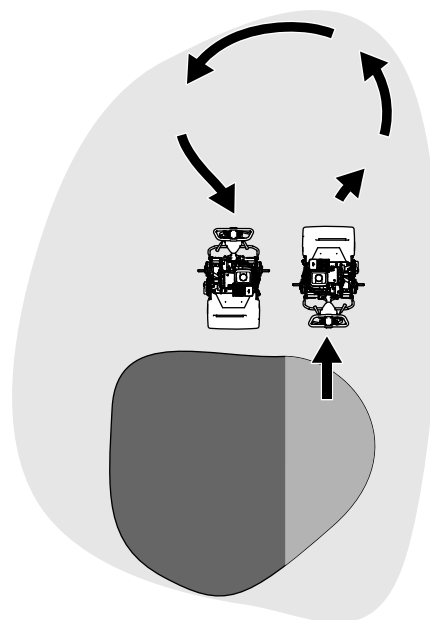

Figure 16
- Turn the machine off the green by raising the cutting reel (pushing the handle down) and performing a tear-shaped turn on the traction drum (Figure 16).
1. Locate the traction-engagement lever on the transmission gearbox (Figure 16).